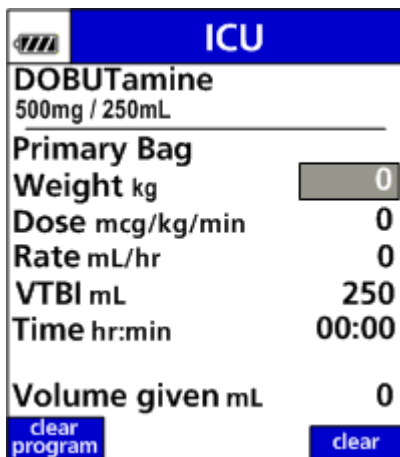

Figure 25. Primary Setup Screen.
6. Enter all required values on the Setup Screen. (See Figure 25.)